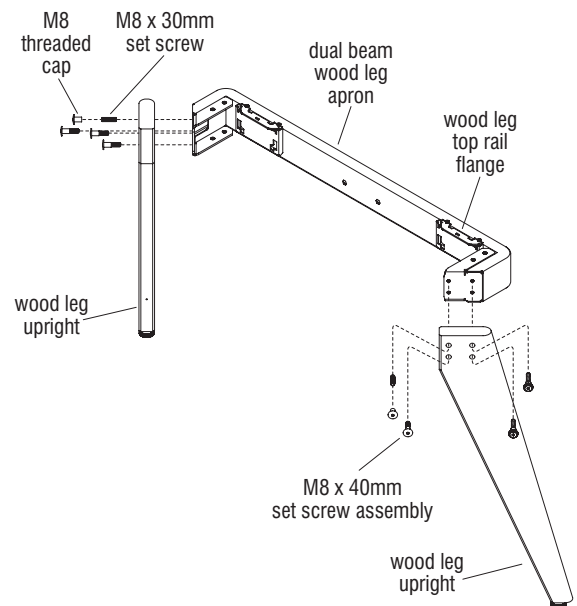

Figure 5 - Dual-Sided Wood Leg Benching Legs & Beam Assembly
1. Carefully unpack Connection Zone components, review the space-planning layout and study Figures 5, 6, 7 & 8 to identify parts to assemble. Position all legs and beams onto the floor per the space-planning layout (Figures 5, 6, 7 & 8).
1. Correctly position the dual beam wood leg apron and wood leg uprights as illustrated in Figure 5.
2. Locate the dual-sided wood leg benching end leg hardware parts bag. Thread each M8 x 30mm set screw into a M8 threaded cap to create the M8 x 40mm set screw assemblies for the next step (Figure 5).
3. Align the holes of the wood leg uprights with the holes on the wood leg apron. Insert and tighten four M8 x 40mm set screw assemblies with inserts through the leg and correctly positioned apron (Figure 5).